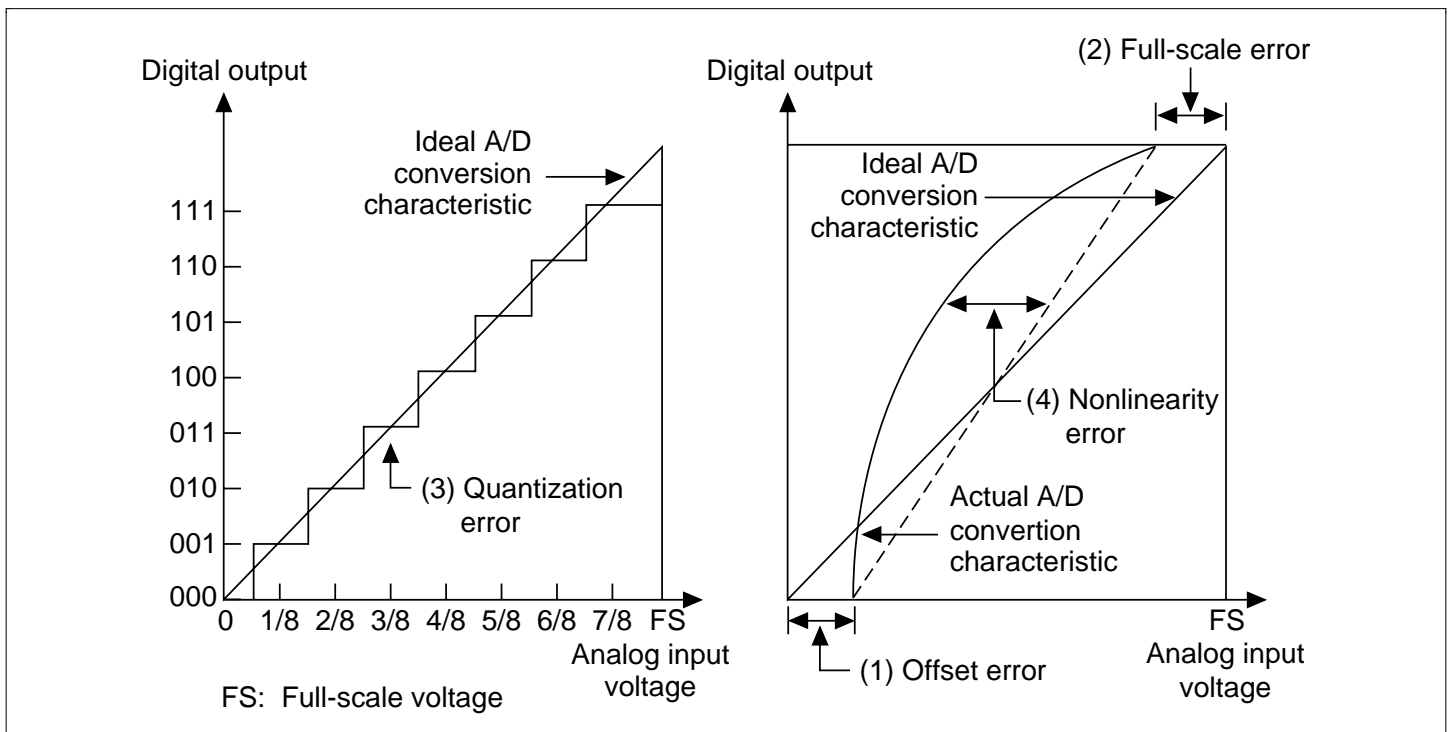

Figure 14.7 Definitions of A/D Conversion Accuracy
Offset error is the deviation between actual and ideal A/D conversion characteristics when the digital output value changes from the minimum (zero voltage) 0000000000 (000 in the figure) to 0000000001 (001 in the figure)(figure 14.7, item (1)). Full-scale error is the deviation between actual and ideal A/D conversion characteristics when the digital output value changes from 1111111110 (110 in the figure) to the maximum 1111111111 (111 in the figure)(figure 14.9, item (2)). Quantization error is the intrinsic error of the A/D converter and is expressed as 1/2 LSB (figure 14.9, item (3)). Nonlinearity error is the deviation between actual and ideal A/D conversion characteristics between zero voltage and full-scale voltage (figure 14.9, item (4)). Note that it does not include offset, full-scale, or quantization error.